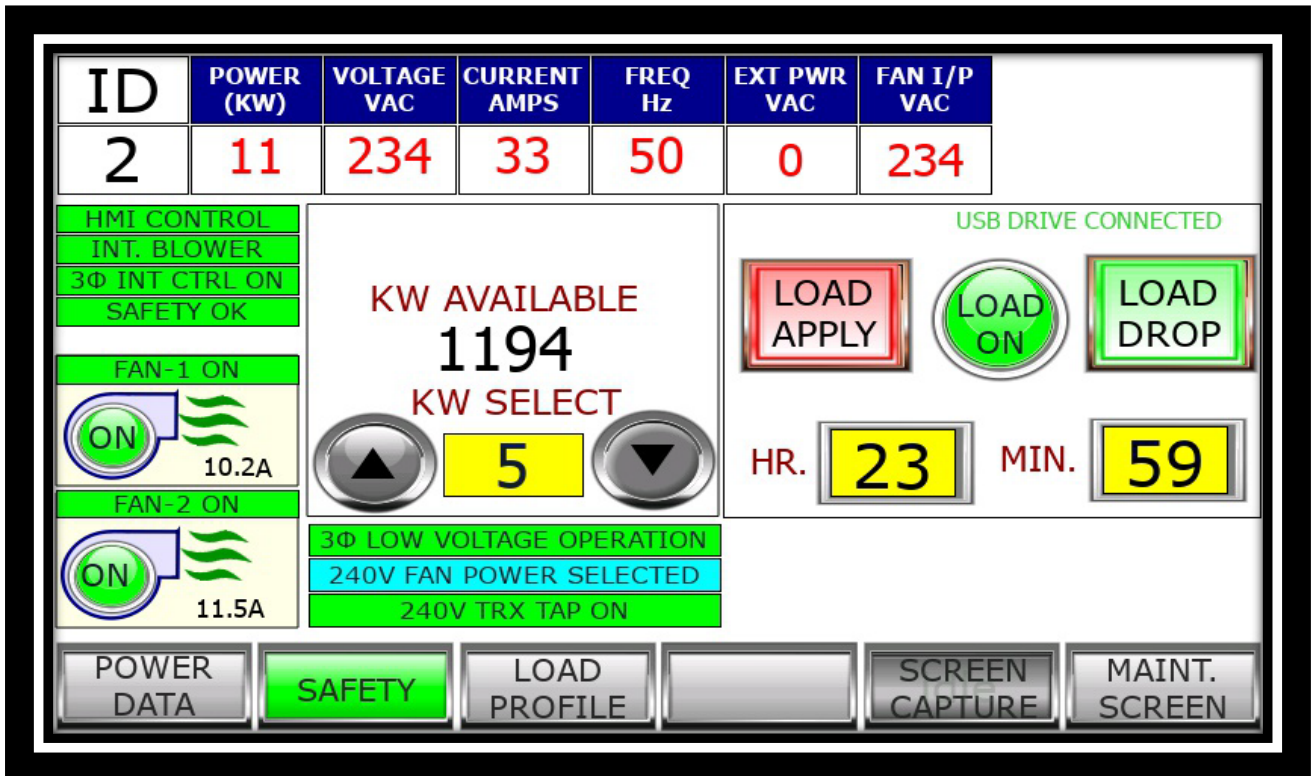

Figure-3 Main Screen.
- Click <Load DROP> button on Main Screen (see figure-3) will drop load.